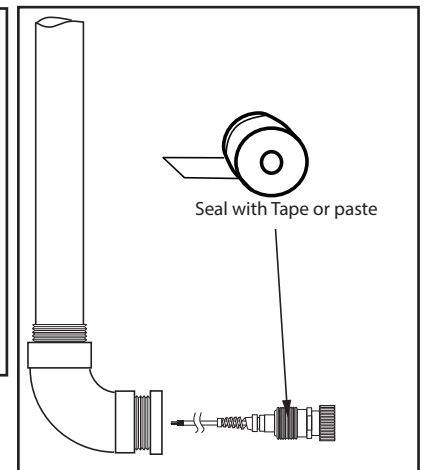

FIG. 10
- C) Attach UVT-SW cable assembly to reducer (1" threads on both) and seal with sealing tap or paste. See FIG 10